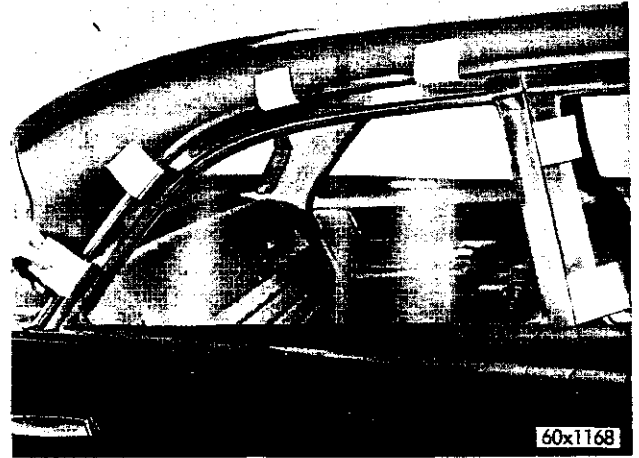

Fig. 12—Testing the Seal of the Door (Typical)
(5) This also prevents door noise when the car is in motion.
(6) If proper adjustment cannot be obtained, the use of shims between the latch plate and pillar should be used. The shims are available in  $\frac{1}{32}$  and  $\frac{1}{16}$  inch thickness. (The shims are used to bring the latch plate closer to the door for full engagement.)
(7) The door weatherstrip seal may be checked by holding a heavy piece of paper (similar to a shipping tag) against the lock pillar and then closing the door.
(8) A slight drag should be felt as the paper is being pulled out (Refer to Fig. 12).
(9) If no drag is felt, move the striker plate in closer.
(10) This paper test should be made all around the door at approximately six-inch intervals.
(11) If no drag is felt on the paper, make the necessary adjustments to either or both hinge pockets or striker plate.